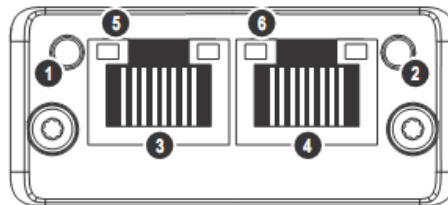

Figure 12: Description of the indication LEDs of the PROFINET module
PROFINET IO defines two LEDs for status indication: one for the communication module (MS) and another for the network (NS). Figure 12 describes the indication LEDs.